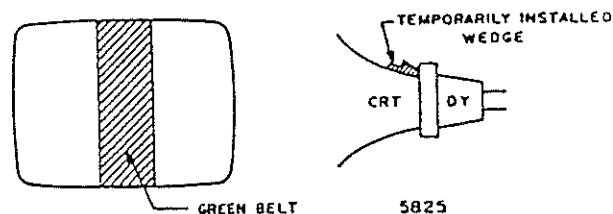

FIG. 4
- 8 Pull the Deflection Yoke backward so that the Green belt will appear. (See Fig. 4).
17 Insert a wedge temporarily as shown in Fig. 4 and adjust the angle of the Deflection Yoke.